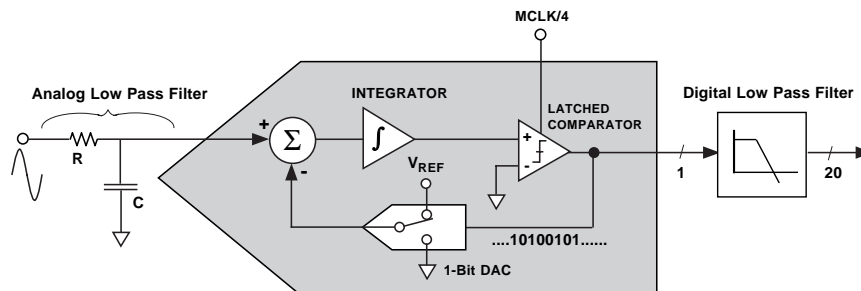
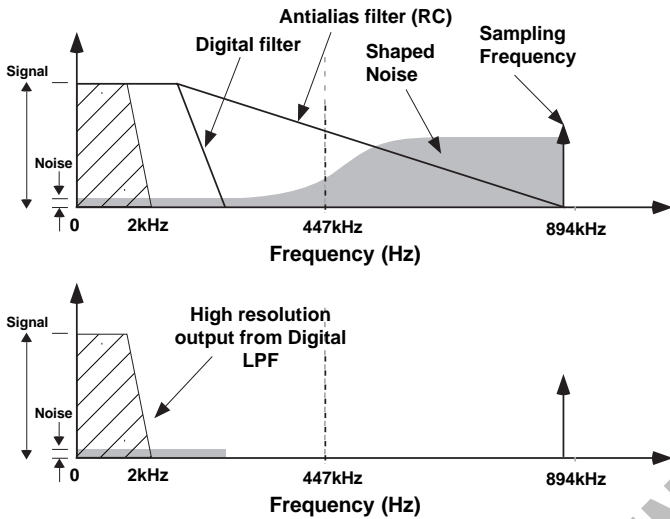
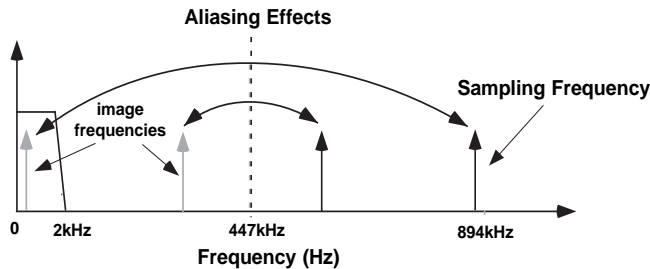

Figure 18– Temperature Register
Figure 19— Noise reduction due to Oversampling & Noise shaping in the analog modulator
Figure 20—ADC and signal processing in Channel 1
The analog-to-digital conversion in the AD7756 is carried out using two second order sigma-delta ADCs. The block diagram in Figure 18 shows a first order (for simplicity) sigma-delta ADC. The converter is made up of two parts, first the sigma-delta modulator and secondly the digital low pass filter.
The sigma-delta converter uses two techniques to achieve high resolution from what is essentially a 1-bit conversion technique. The first is oversampling. By over sampling we mean that the signal is sampled at a rate (frequency) which is many times higher than the bandwidth of interest. For example the sampling rate in the AD7756 is CLKIN/4 (894kHz) and the band of interest is 40Hz to 2kHz. Oversampling has the effect of spreading the quantization noise (noise due to sampling) over a wider bandwidth. With the noise spread more thinly over a wider bandwidth, the quantization noise in the band of interest is lowered—see Figure 19. However oversampling alone is not an efficient enough method to improve the signal to noise ratio (SNR) in the band of interest. For example, an oversampling ratio of 4 is required just to increase the SNR by only 6dB (1-Bit). To keep the oversampling ratio at a reasonable level, it is possible to shape the quantization noise so that the majority of the noise lies at the higher frequencies. This is what happens in the sigma-delta modulator, the noise is shaped by the integrator which has a high pass type response for the quantization noise. The result is that most of the noise is at the higher frequencies where it can be removed by the digital low pass filter. This noise shaping is also shown in Figure 19.
Figure 18 also shows an analog low pass filter (RC) on the input to the modulator. This filter is present to prevent aliasing. Aliasing is an artifact of all sampled systems. Basically it means that frequency components in the input signal to the ADC which are higher than half the sampling rate of the ADC will appear in the sampled signal at a frequency below half the sampling rate. Figure 20 illustrates the effect, frequency components (arrows shown in black) above half the sampling frequency (also known as the Nyquist frequency), i.e., 447kHz get imaged or folded back down below 447kHz (arrows shown in grey). This will happen with all ADCs no matter what the architecture. In the example shown it can be seen that only frequencies near the sampling frequency, i.e., 894kHz, will move into the band of interest for metering, i.e., 40Hz - 2kHz. This fact will allow us to use a very simple LPF (Low Pass Filter) to attenuate these high frequencies (near 900kHz) and so prevent distortion in the band of interest. A simple RC filter (single pole) with a corner frequency of 10kHz will produce an attenuation of approximately 40dB at 894kHz—see Figure 19. This is sufficient to eliminate the effects of aliasing.